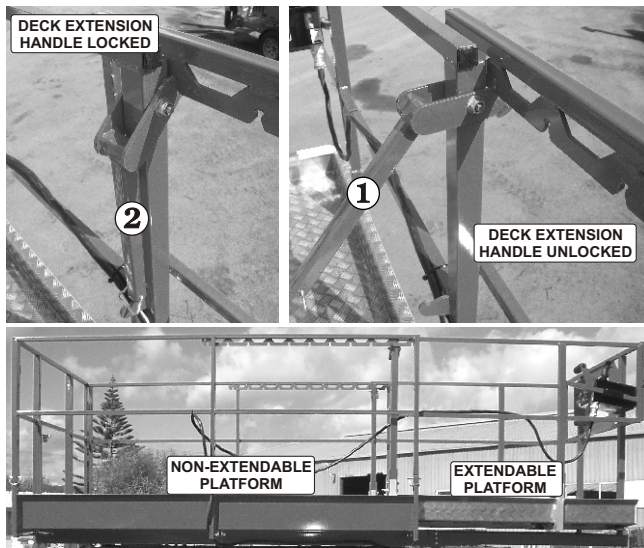

Figure 8.26
2. Lift up the deck extension handles (one (1) for each side of the deck) ❶ to unlock the deck (see Figure 8.26).
4. Lower the deck extension handles and allow the lock ❷ to locate (see Figure 8.26).
The MULTI-position extendible platform (see Figure 8.26) can be securely locked into different positions. To move it from one (1) position to the other do the following: